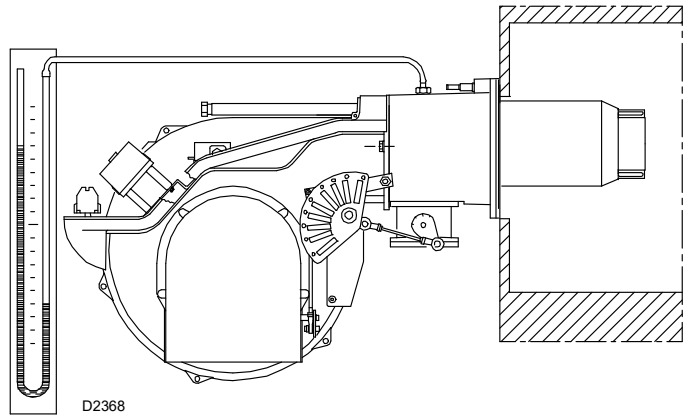

Fig. 35
- Purge the air from the gas line. Fit a U-type manometer (Fig. 35) to the gas pressure test point on the sleeve. The manometer readings are used to calculate the MAX. burner power using the diagram on page 24.